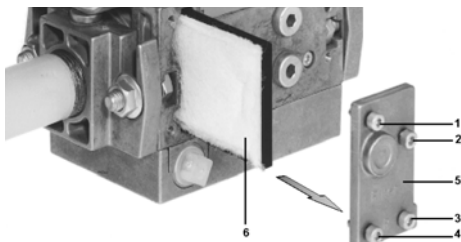

Fig. 29
- 2 Remove screws 1 ÷ 4 using the Allen key n. 3 and remove filter cover 5 in Fig. 29.